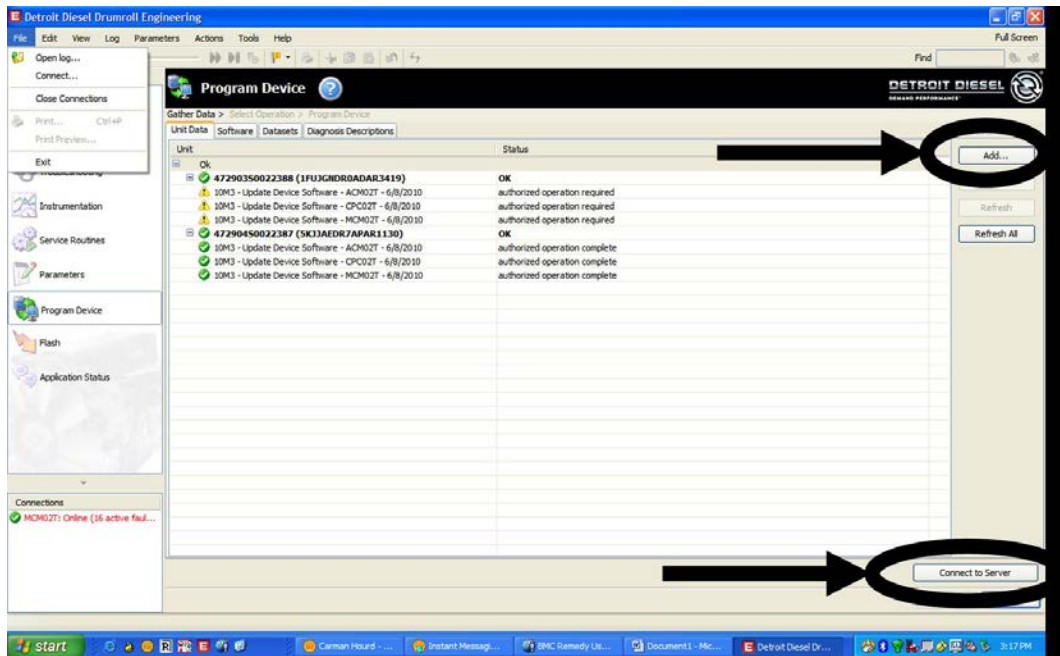

Figure 6 – Adding Engine Serial Number And Connecting To Server
9. Select the “Add” button in the upper right corner of the DiagnosticLink® screen and enter the engine serial number. Then click the “Connect to Server” button in the bottom right corner of the DiagnosticLink® screen. See Figure 6.